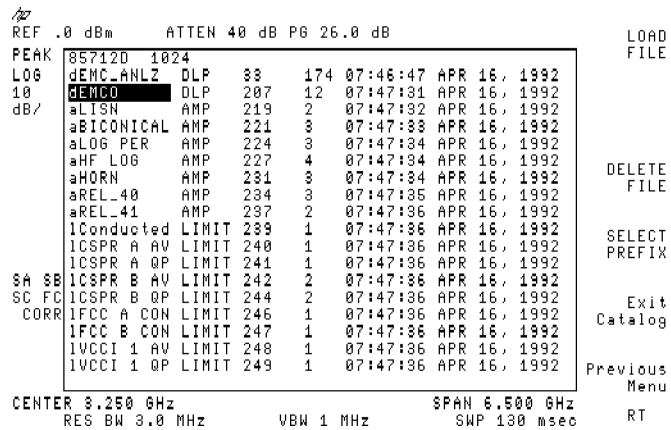

Figure 2.4. Selecting the dEMCO File
5. Press **CATALOG CARD**, **CATALOG ALL**, **(↓)** (**dEMCO**, the tower/turtable program, will be highlighted, see Figure 2-4), and **LOAD FILE**. It takes about six seconds for the analyzer to load the tower/turtable program.